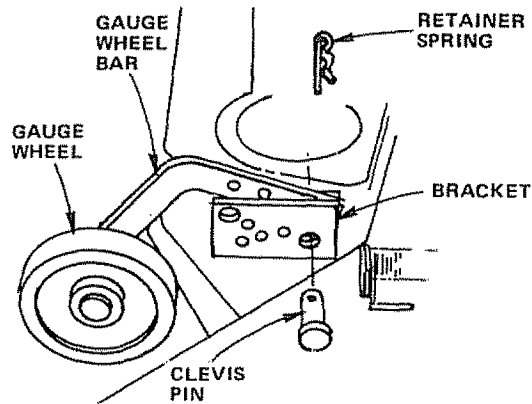

FIGURE 14
8. Insert Gauge Wheel Bar into Bracket. Retain with Clevis Pin and Retainer Spring (Fig. 14).